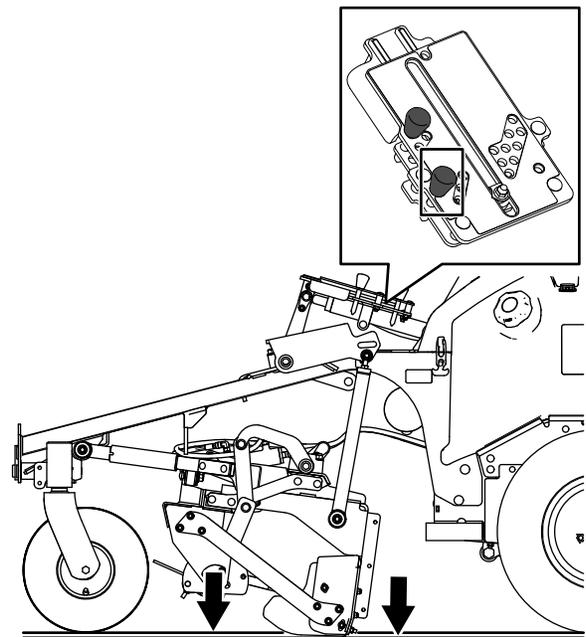

Figure 47
- Grade- or below-grade attachment-stop hole (Figure 47)